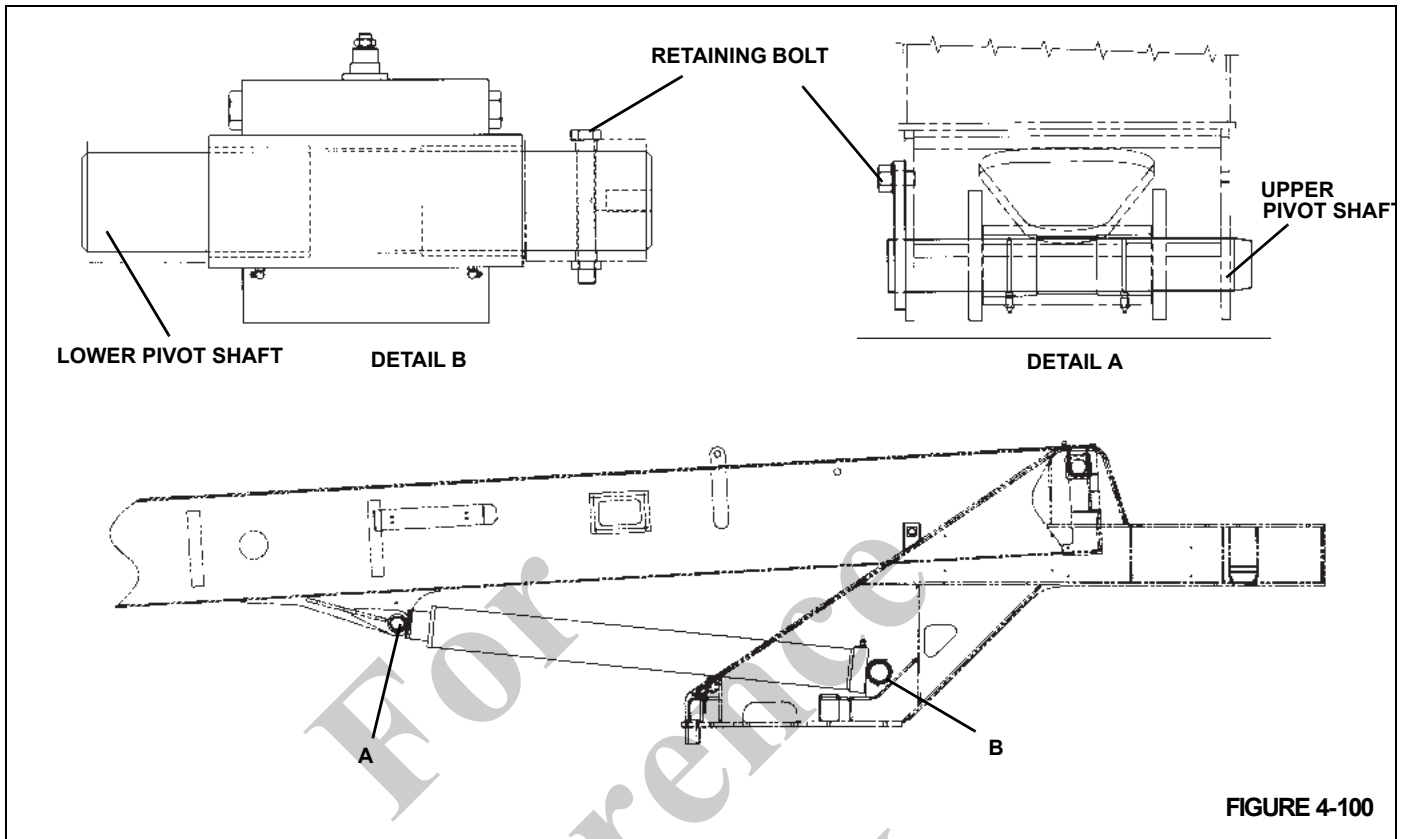

FIGURE 4-100
4. Remove the bolt and washer securing the lift cylinder upper pivot shaft to the boom (see Figure 4-100).